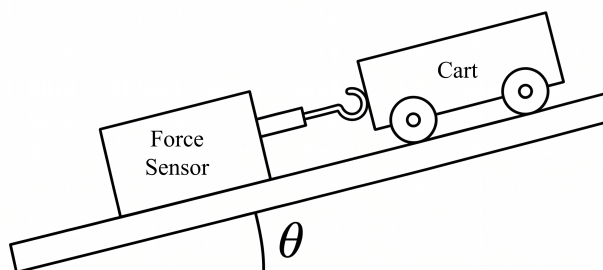

Figure 2: Force sensor orientation with a cart on an inclined plane.
1) In this experiment, we are going to measure the forces on a cart on an inclined plane using the setup shown below (Figure 2). Before we take a measurement, answer Questions 3 and 4 on the attached worksheet.
3) Now let's confirm your prediction from the last step. Set up the force sensor on the track like shown in Figure 2, zero the force sensor by clicking on the force button in the lower right corner (see Figure 1), then place the cart on the track touching the force sensor hook. You will have to hold the force sensor steady on the track (this is a static experiment). Use the Vernier Graphical Analysis software to collect a reading from the force sensor. Record this in Question 8 on the attached worksheet.